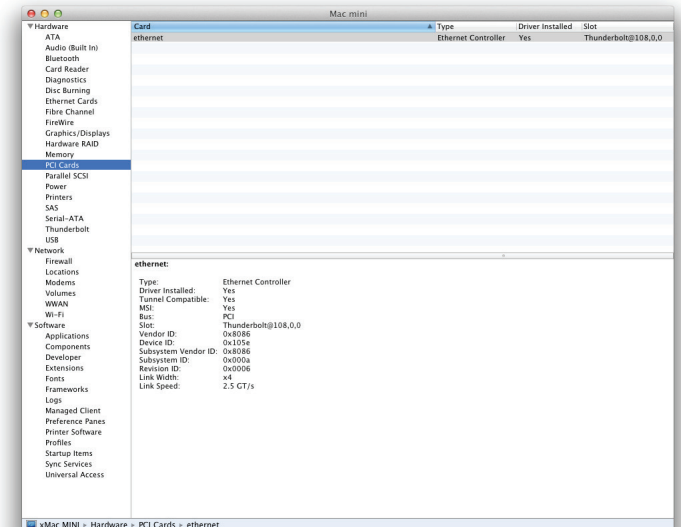

Figure 20
2. Click PCI Cards under the Hardware header in the left column (Figure 20).
3. At the top of the right column, installed cards are listed. By selecting a card at the top, detailed information is listed. You should see “Yes” next to Driver Installed and Tunnel Compatible, otherwise the card or driver may not be Thunderbolt-compatible (Figure 20).